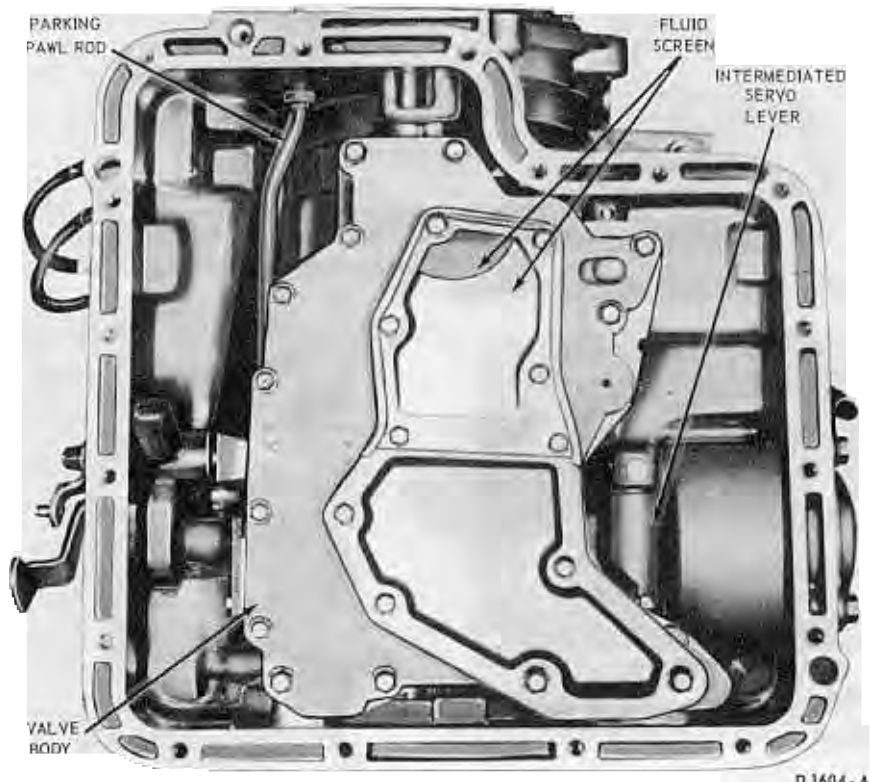

FIG. 24—Transmission with Oil Pan Removed
3. Remove the valve body attaching bolts (Fig. 24). Lift the valve body from the transmission case.